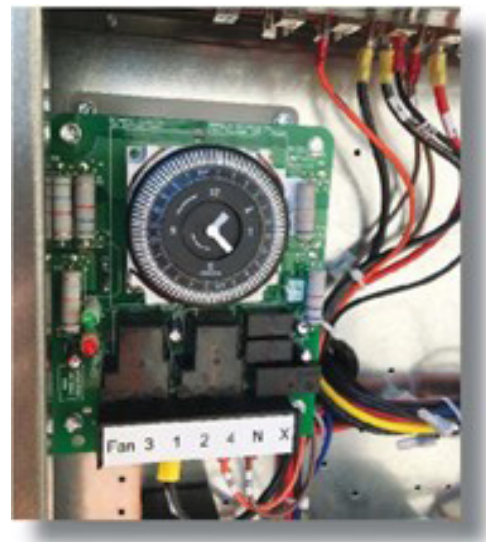

Figure 4
1. If a defrost timer is installed on the condensing unit, make sure it is disconnected/ disabled (all switches on time clock should be in the OFF position) (Figure 4). All defrost functions are performed by the controller board.